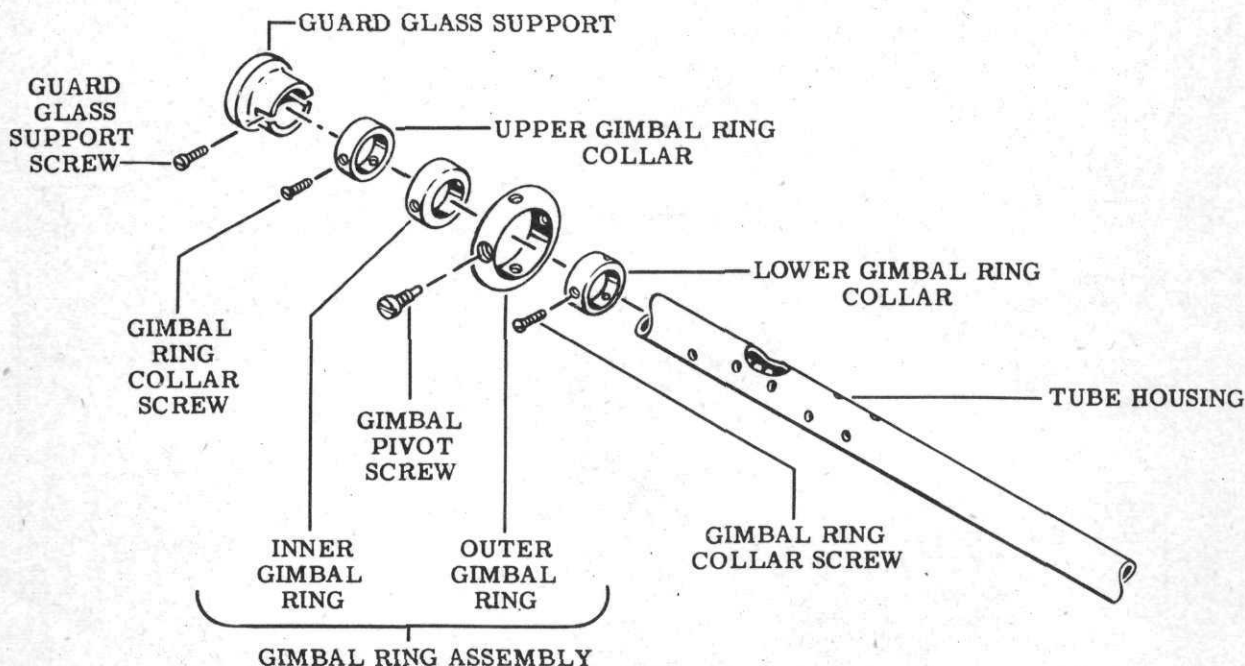

Figure 27
6. Slide the lower gimbal ring collar over the scale end of the tube housing and secure it loosely to the tube housing with three gimbal ring collar screws. See the exploded view, Fig. 27.
7. Apply a coating of pivot screw grease to the bearing surfaces of two gimbal pivot screws. See "Lubrication" in the Control Manual. Then assemble the outer gimbal ring to the inner gimbal ring with the two gimbal pivot screws. Insure that the outer gimbal ring moves smoothly without binding on the pivot screws. See the exploded view, Fig. 27.
comes up against the lower gimbal ring collar. See the exploded view, Fig. 27.
9. Slide the upper gimbal ring collar over the tube housing and up to the gimbal ring assembly. Secure it loosely to the tube housing with three gimbal ring collar screws. See the exploded view, Fig. 27.
11. Slide the guard glass support onto the tube housing, locate it in position, and assemble the two guard glass support screws. See the exploded view, Fig. 27.